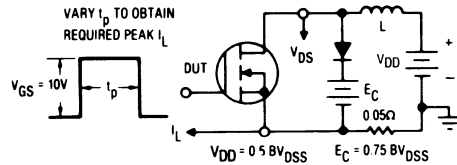

Fig. 14 — Clamped Inductive Test Circuit
- 3 See Figures 14 and 15. $L = 100\mu\text{H}$
① $T_J = 25^\circ\text{C}$ to 150°C .
② Pulse Test: Pulse width $\leq 300\text{ }\mu\text{s}$, Duty Cycle $\leq 2\%$.
③ (See Fig. 14 and 15) $L = 100\text{ }\mu\text{H}$